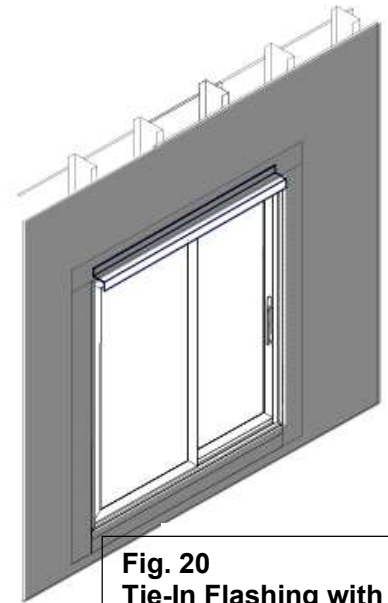

Fig. 20
C. Integrate all flashing with building's Weather Resistant Barrier (WRB) system (Fig.20) per WRB manufacturer's instructions.